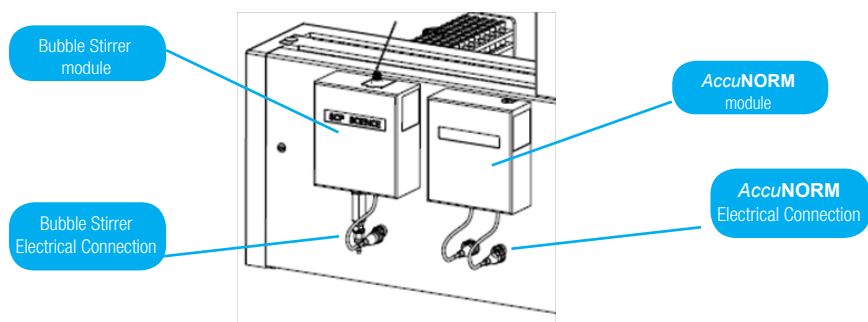

Figure 16: View of the Bubble Stirrer and *AccuNORM* connected to the Sample Handler back cover
- Slide the black pins located on the back of the *AccuNORM* module to the into the grooves on the Sample Handler back panel and connect the two cables (Figure 16).
- Pass the sensor cable through the hook on the z-axis back cover and through the top guide on the front of the z-axis arm (Figure 16).